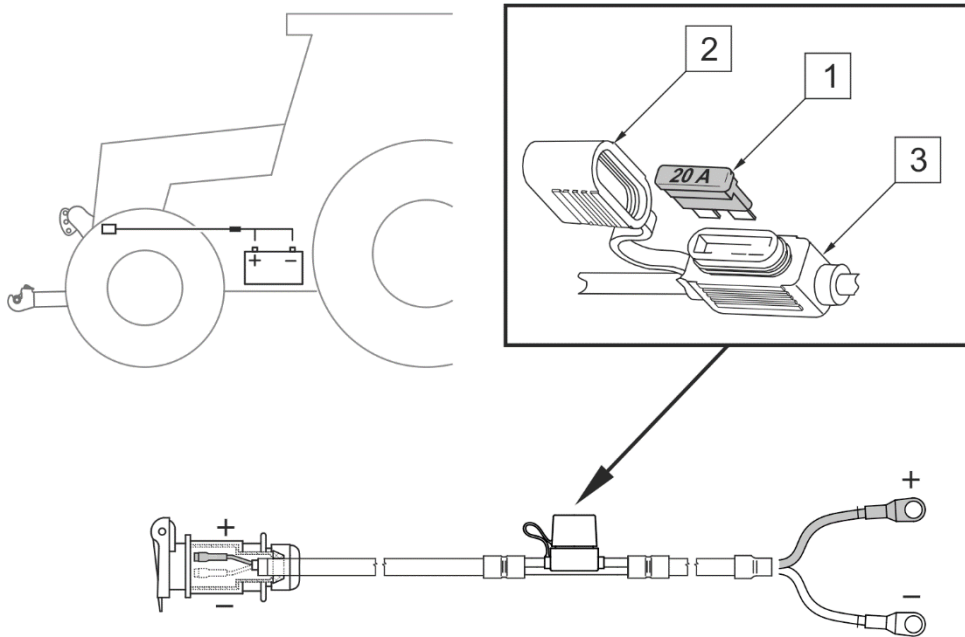

FIGURE 5.15 Fuses of electrical system
(1) - 20A UNIVAL fuse ; (2) - cover; (3) - housing
There is a fuse (1) on the supply conduit (+) of the electrical system (FIGURE 5.15). To check the fuse, remove cover (2) and take the fuse out of the housing (3). Blown fuse should be replaced with a new one (UNIVAL 20A).